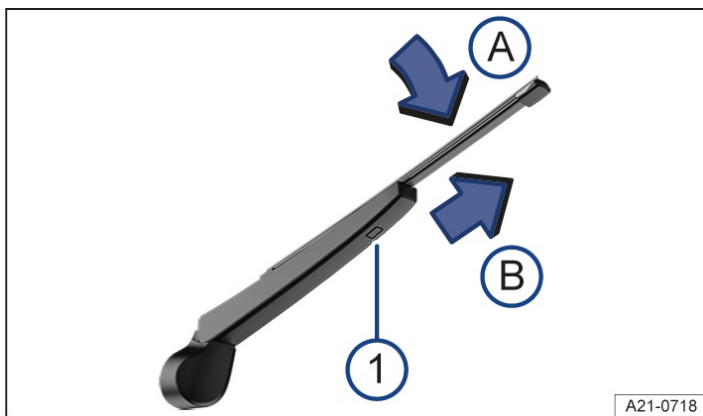

Fig. 2 Changing the wiper blade for the rear window.
① Wiper blade release button.
3. Press and hold the release button → Fig. 2 ①.
4. Tilt the wiper blade in the direction of the wiper arm → Fig. 2 ① and pull it off in the direction of the arrow ② at the same time. You may need to use some force to do this.
5. Insert a new wiper blade with the same length and design onto the wiper arm against the direction of the arrow. Push it on until it engages → Fig. 2 ②. The wiper blade must be in folded-down position to do this → Fig. 2 ①.